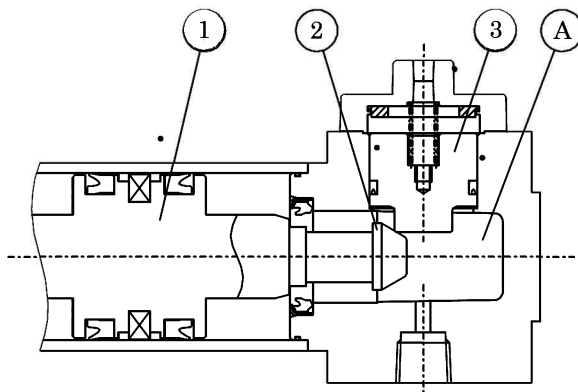

Fig. 1
- (a) Stopper piston ③ is pushed up by the slant of sleeve tip ② as the piston ① of cylinder approaches to its stroke end.(fig. 1)